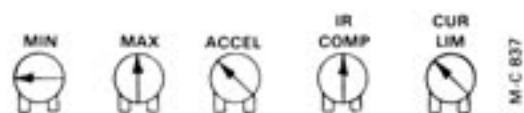

Figure 41 - Approximate Trim Pot Settings
**NOTE:** Figure 41 shows approximate trim pot settings. Follow adjustment procedure below for final calibration.